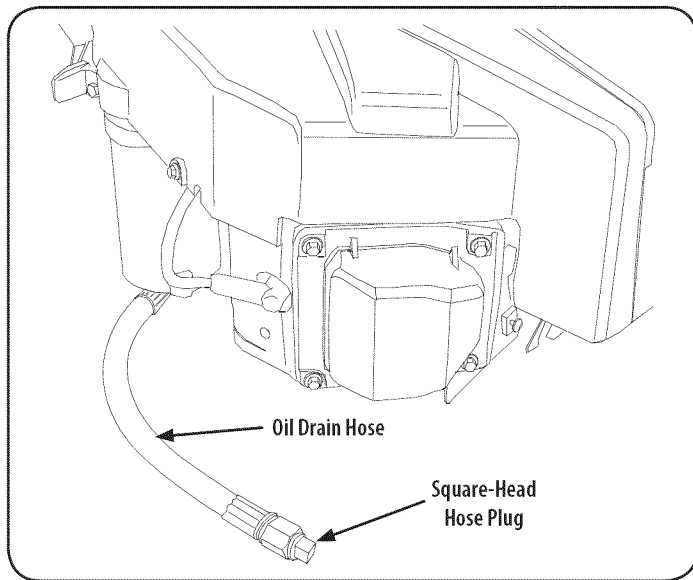

Figure 22
2. Locate the oil drain hose on the left side of the engine. See Figure 22.
4. While holding the free end of the oil drain hose over the oil collection container, unscrew the square head hose plug from the end of the hose. See Figure 22. Drain the engine oil into the collection container.